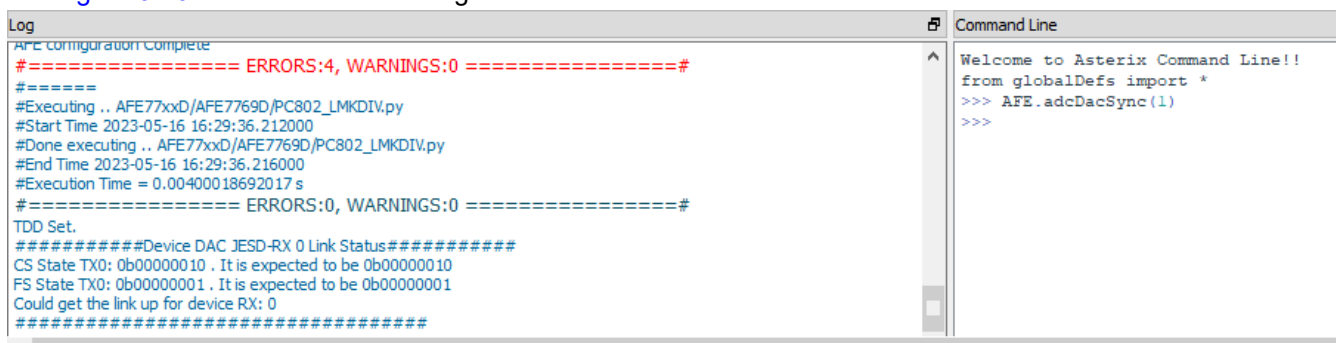

Figure 3-19. JESD Link Bringup
- Proceed to set up the RNS802 by following the **PC802 EVB RFIC Demonstration User Guide** (Version 3) from section 2.2. When you get to section 2.2.5, after you enter the *start* command on the test mode tool to start sending data, type the “*AFE.adcDacSync(1)*” command in the Command line of the AFE77xxD GUI. You should now be able to see a report in the log window that the JESD link is up with no errors like in Figure 3-19. Data now flows through the AFE TX channel.